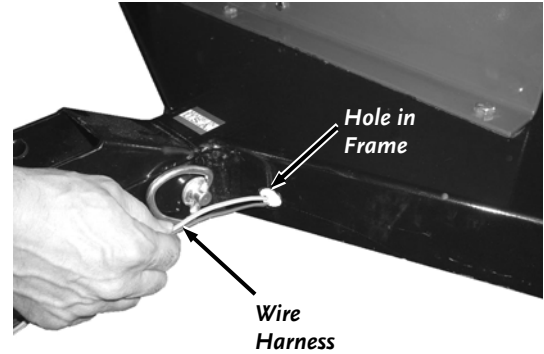

Figure 63
1. Push the Yellow/Brown and Green/Brown Wires of the Wire Harness through the hole in the front left side of the Frame (**Figure 63**).